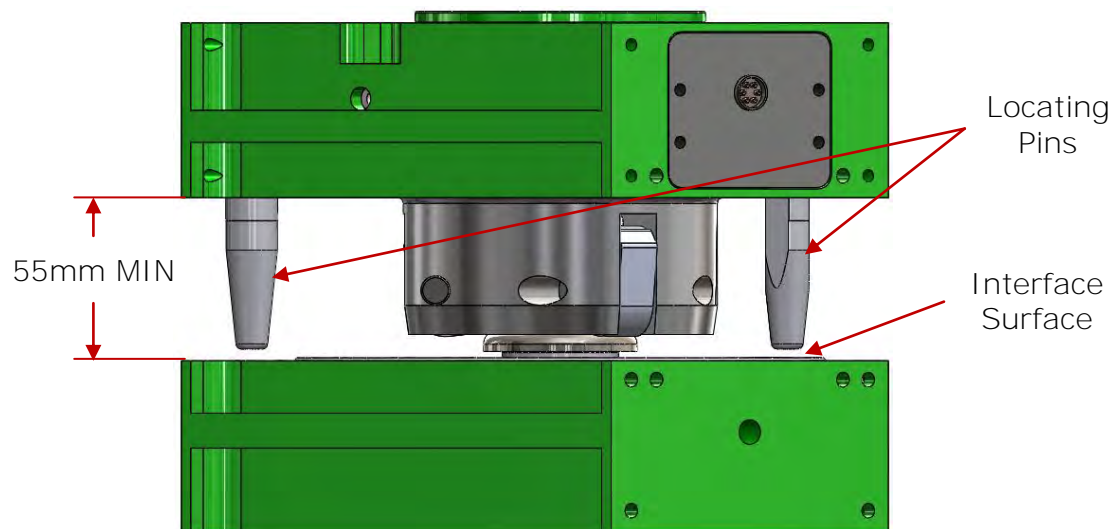

Figure 6.2-1. E160 Tool Changer – Docking Orientation
1. Orient the Robot Adaptor and Tool Adaptor so that the centerline axes are aligned and the interface surfaces are parallel. Maintain approximately 55mm minimum separation between the Robot Adaptor and Tool Adaptor interface surfaces (Figure 6.2-1). Note that the interface surfaces lie inboard of the outer perimeter of the Robot and Tool Adaptor.